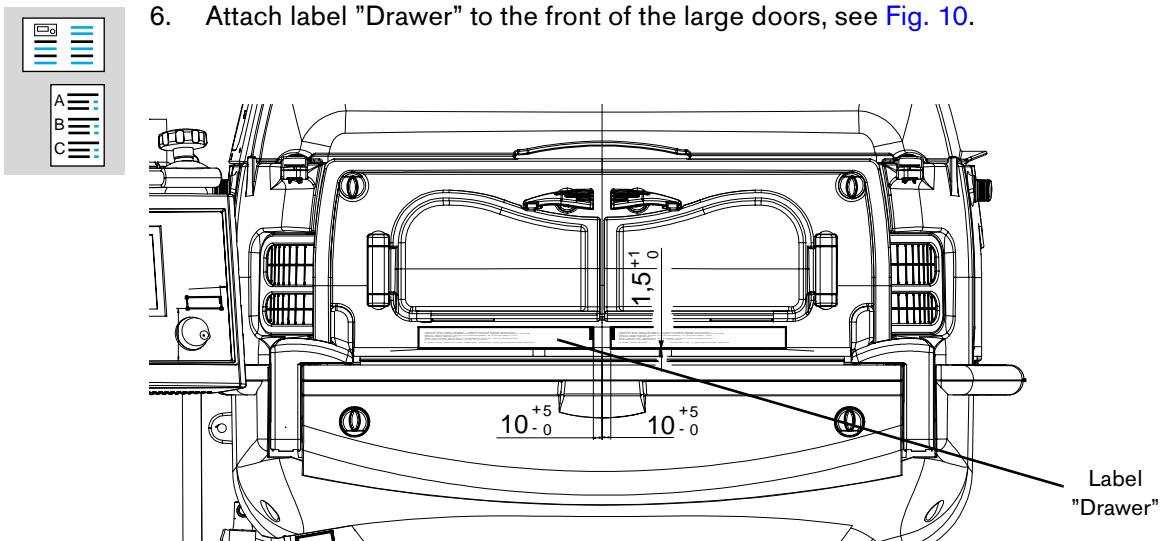

Fig. 10 Front view of Caleo, label "Drawer"
4. Secure new large door to holders using screws (1), see Figure above (**Note: The tightening torque of the screws is 2.5 +0.5 Nm!**).
6. Attach label "Drawer" to the front of the large doors, see Fig. 10.